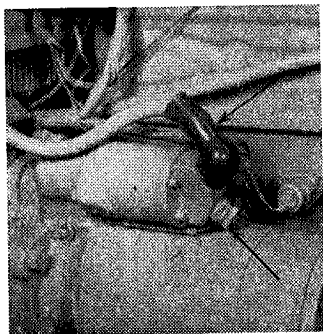

Fig. 44
3. Inspect the connecting cable of the starter: tighten the cables well (Fig. 44).